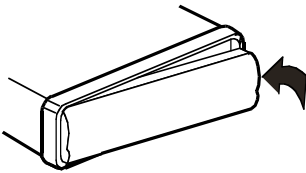

Figure 9 Insert one end of the panel into the opening in the main unit. Then push the other end of the panel into main unit until you hear a “click”
2. Then push the other end of the front panel into the main body. You should hear a “click.” (**Figure 9**)